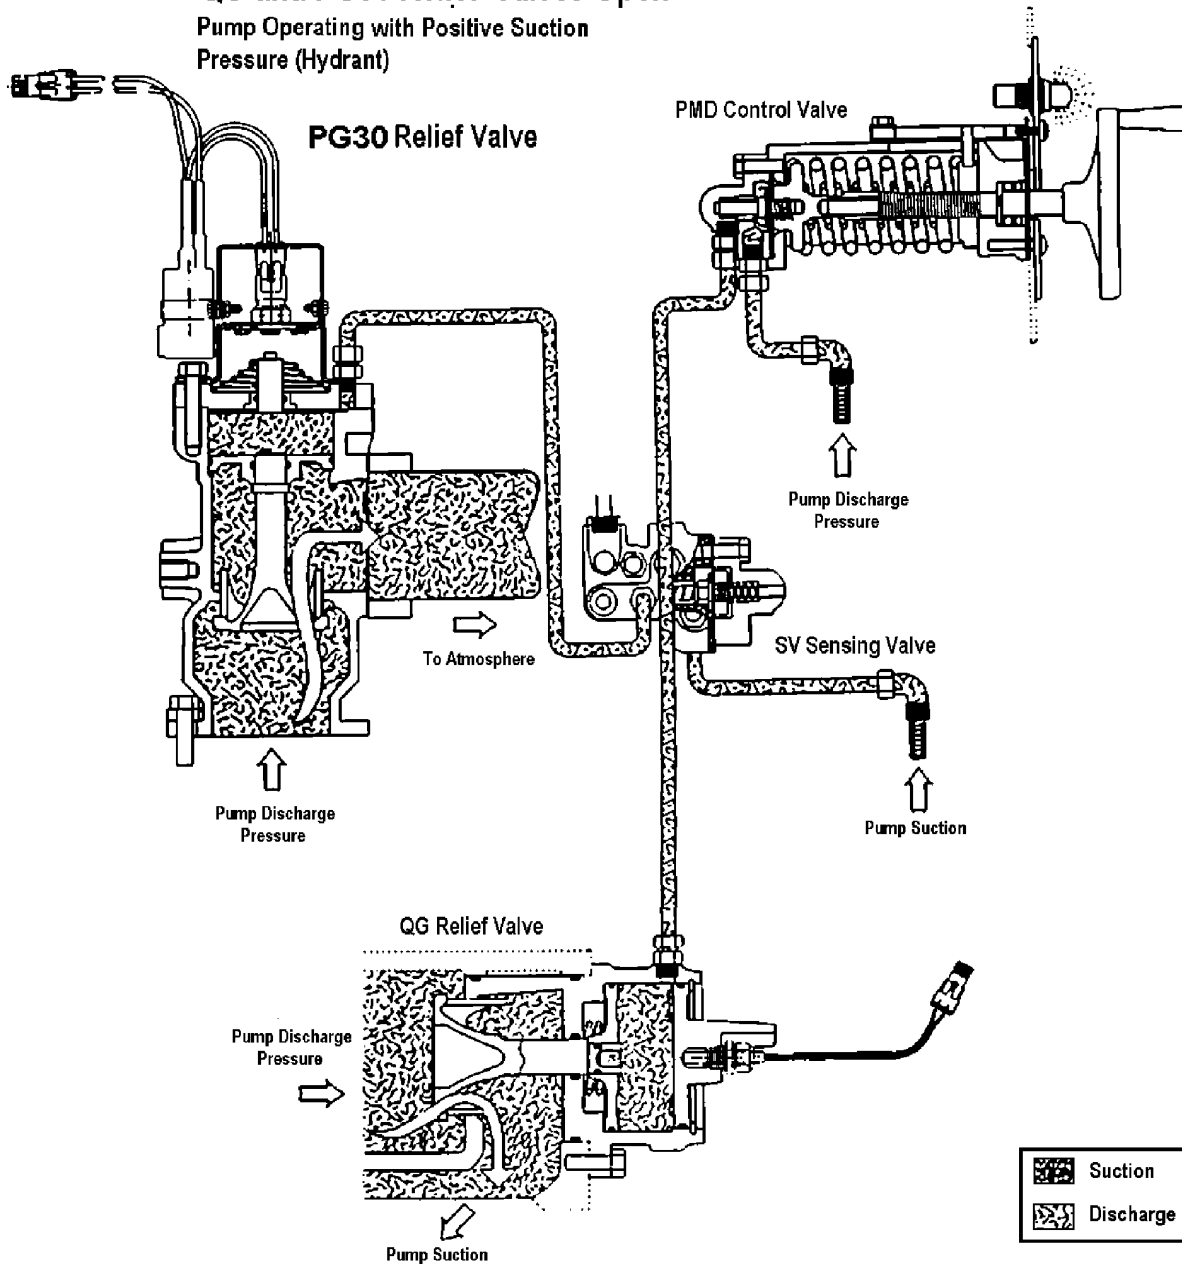

Figure 1-19. TPM Total Pressure Master Relief Valve System
The TPM system functions by monitoring and controlling pump pressure and relieves excessive pressure by first utilizing the internal relief valve (QG) (returning flow to the pump suction, see figure 1-18). If excessive pressure remains and there is positive pressure on the suction, a secondary external relief valve (PG30) responds by discharging excessive pressure to the atmosphere (shown in figure 1-19). The staging of the internal and external relief valves to operate in series ensures maximum protection against over pressure and eliminates the indiscriminate discharging of water to the ground.